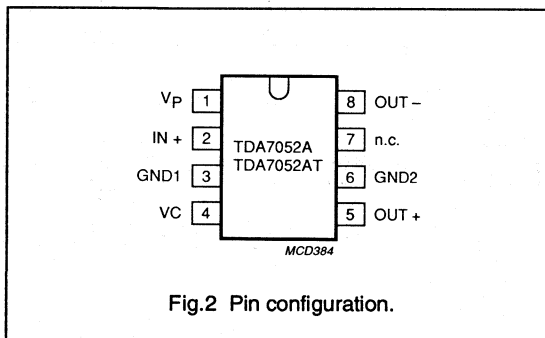

Fig.2 Pin configuration.
* Output power is measured directly at the output pins of the IC. It is shown as a function of the supply voltage in Fig. 2 (BTL application) and Fig. 3 (stereo application).
Fig. 2 Output power across the load impedance (R_L) as a function of supply voltage (V_p) in BTL application. Measurements were made at $f = 1 \text{ kHz}$; $d_{tot} = 10\%$; $T_{amb} = 25 \text{ }^\circ\text{C}$.